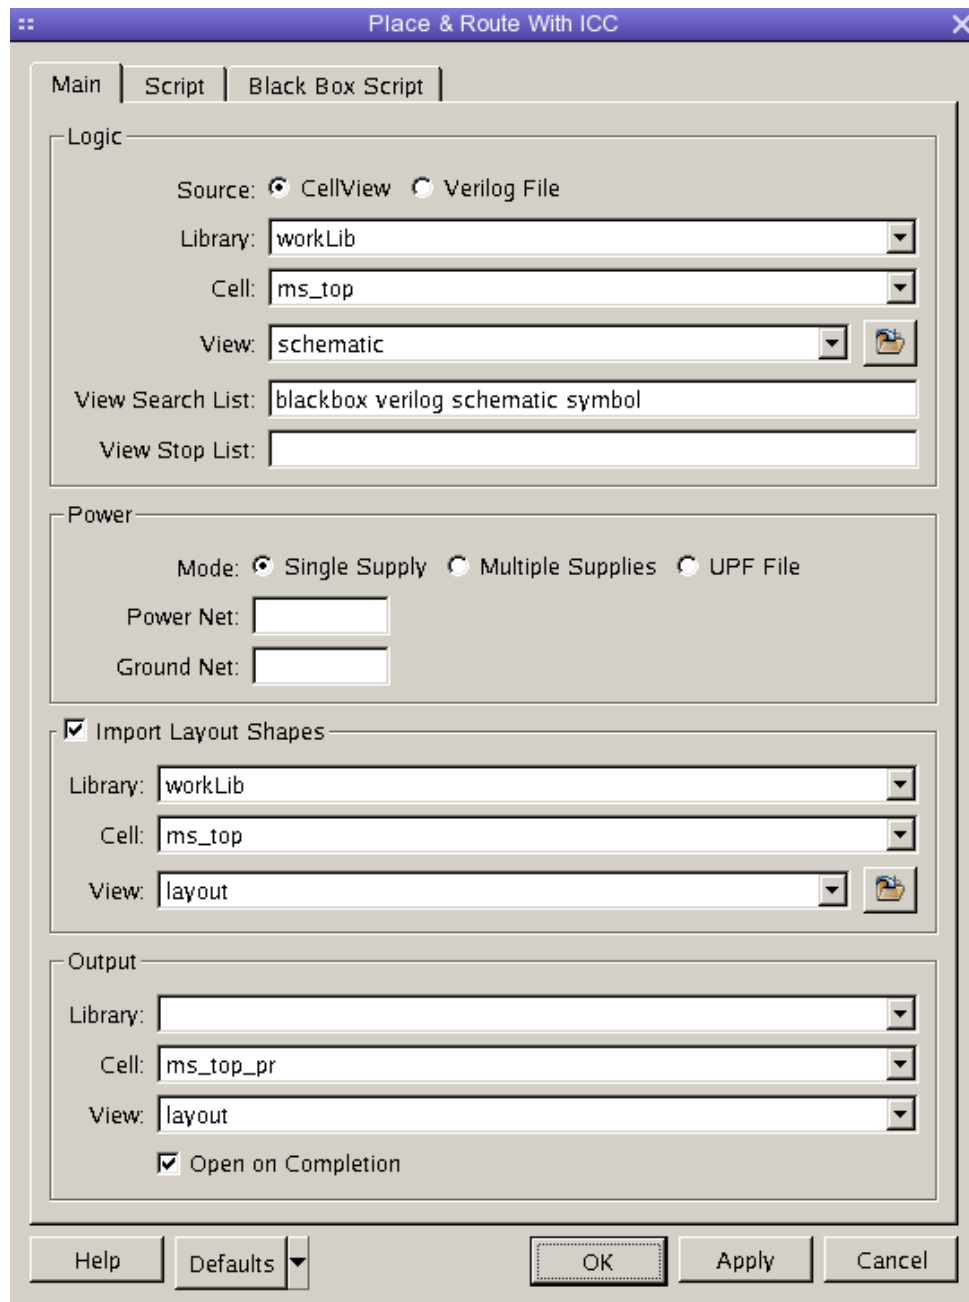

Figure 1 Place & Route with ICC Dialog
- b. Choose **ICC > Place and Route**. The **Place & Route with ICC** dialog opens (Figure 1).